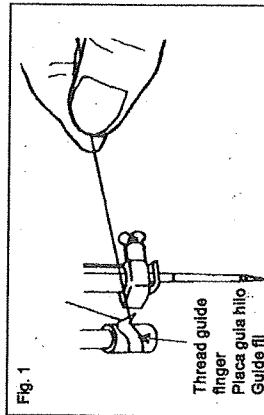

Fig. 1
1. Pull thread from inside of thread guide finger. (Fig. 1)
1. Tire el hilo a través de la placa guiadora. (Fig. 1)